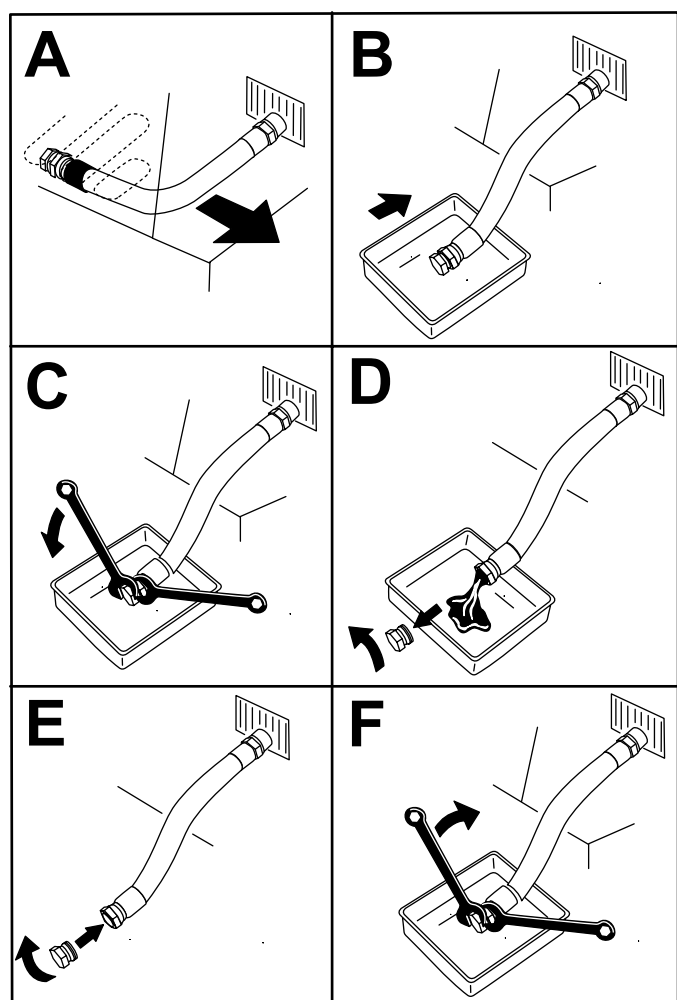

Figure 39
4. Drain the oil from the engine (Figure 39).